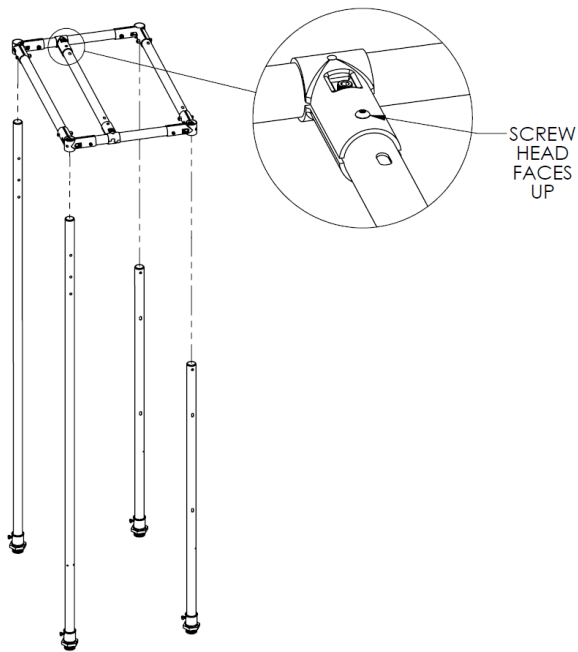

FIGURE 9
6. Note the orientation of the shelf assembly (**FIGURE 9**). Pass the rear corner brackets of the shelf assembly through the 59-inch uprights and slide the shelf assembly downward, passing the front corner brackets through the 38 1/4-inch uprights.